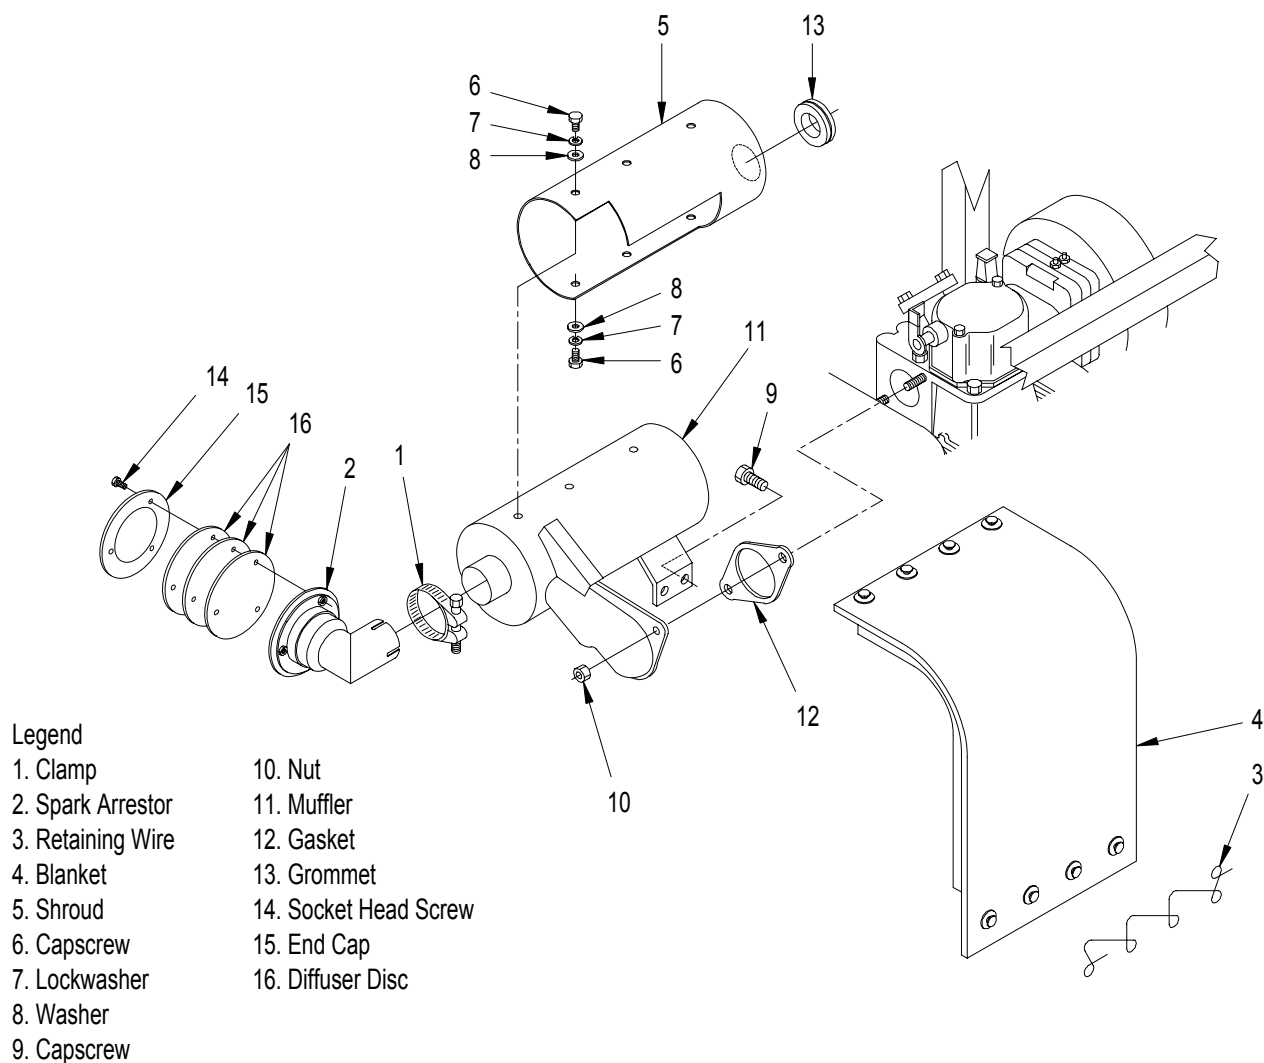
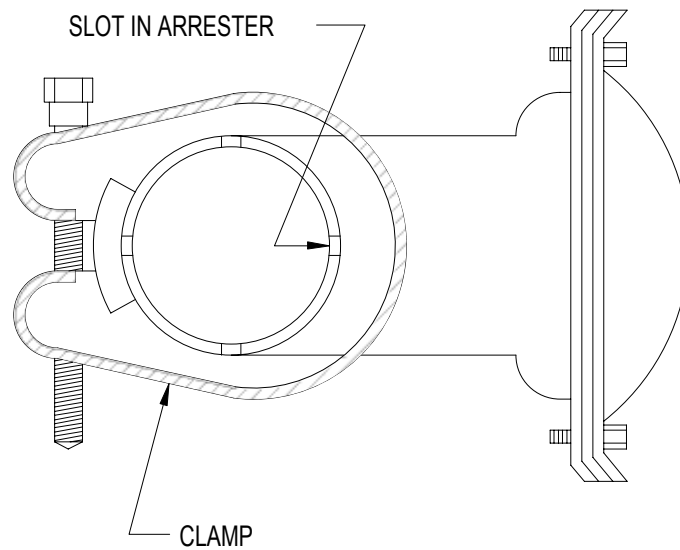

Figure 4-17. Exhaust System Components
Figure 4-18. Spark Arrestor Clamp Positioning
- (1) Shut down generator set.
- (2) Remove clamp (1, Figure 4-17) and spark arrestor (2) from muffler (11).
- (3) Cut retaining wire (3) and remove retaining wire and blanket (4) from shroud (5).
- (4) Remove capscrews (6), lockwashers (7), washers (8), and shroud (5) from muffler (11).
- (5) If necessary, remove grommet (13) from shroud (5).
- (6) If necessary, remove capscrews (9), nuts (10), muffler (11), and gasket (12).
- (1) Remove socket head screws (14, Figure 4-17), end cap (15), and diffuser discs (16) from spark arrestor (2).
- (1) If removed, install new gasket (12, Figure 4-17) and muffler (11) with nuts (10), and capscrews (9). Torque capscrews (9) to 125 lbs-in (14 Nm) and nuts (10) to 225 lbs-in (25 Nm).
- (2) If removed, install grommet (13) in shroud (5).
- (3) Install shroud (5) on muffler with washers (8), lockwashers (7), and capscrews (6).
- (4) Install muffler blanket (4) over shroud (5). Secure with retaining wire (3).
- (5) Install spark arrestor (2) on muffler and secure with clamp (1), refer to Figure 4-18 for proper positioning of clamp. Torque clamp bolt to 150 lbs-in (17 Nm).